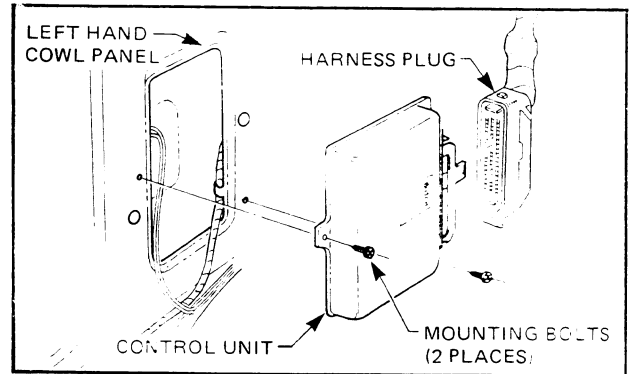

Figure 6C-98
4. Disconnect the wiring harness plug from the control unit by pulling up tang and swing harness out from control unit. Refer Fig. 6C-98A.